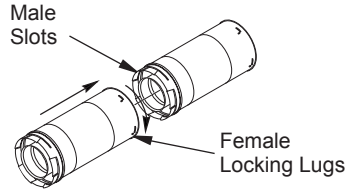

Figure 8 - Vent Pipe Connections
Twist-Lock Procedure: The female ends of the pipes have locking lugs (indentations). These lugs will slide straight into matching slots on the male ends of adjacent pipes. Push pipe sections together and twist one section clockwise approximately one-quarter turn until the sections are fully locked (see Figure 8). *Note:* Horizontal runs of vent must be supported every three feet. Use wall straps for this purpose.
2. Assemble the desired lengths of pipe and elbows necessary to reach from the fireplace flue up through the firestop. Be sure all pipe and elbow connections are fully twist-locked (see Figure 8, page 9).